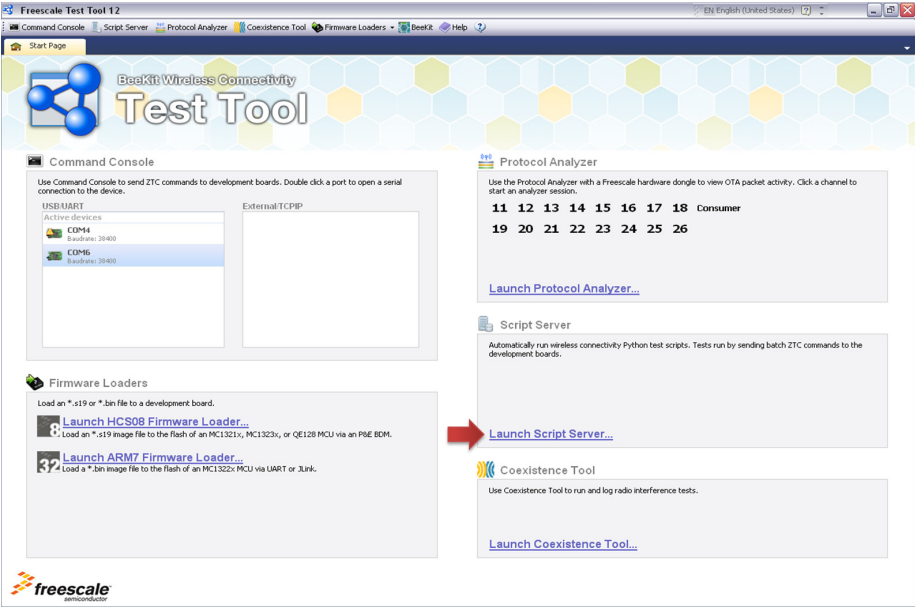
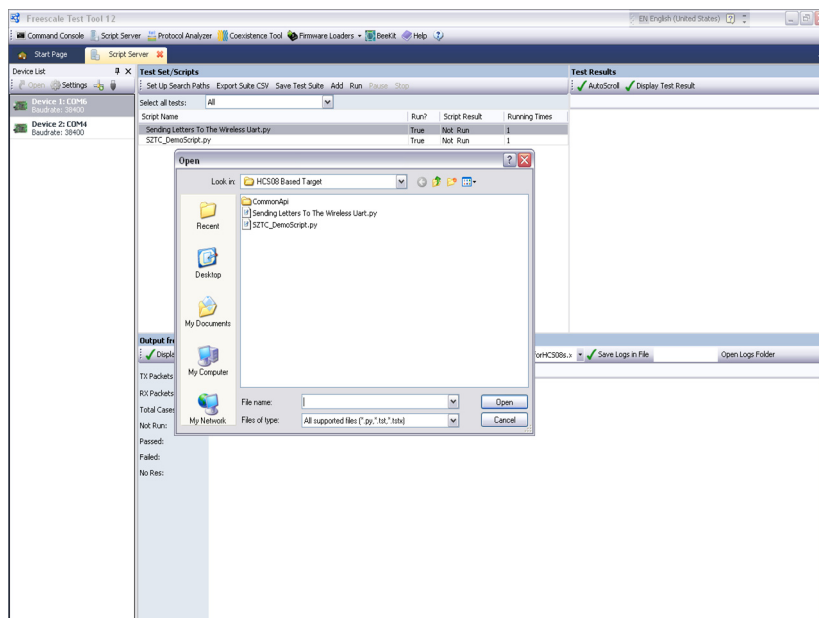

Figure 5-4. Test Tool Adding a Python (py) script
Figure 5-5. Loading a Script
- 9. As shown in Figure 5-4, open the Script Server application by clicking on the Launch Script Server button. The Script Server window appears as shown in Figure 5-5. See the *Freescale Test Tool User's Guide* for more details about Script Server.
10. Load the Sending Letters To The Wireless Uart.py Python script, which is located in the following directory and shown in Figure 5-5.